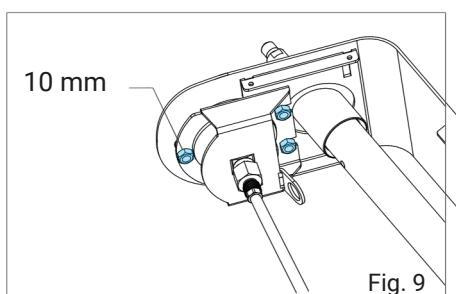

Fig. 9
- 4 When replacing the manometer (31), you must first unscrew the manometer holder (32) from the air pump casing (19). You will need a 10 mm open-end wrench for the three nuts (Fig. 9).
9 Fix the manometer holder and manometer using the three M6 hexagon nuts in the air pump casing. Hand-tighten the nuts using a 10 mm open-end wrench (Fig. 9).